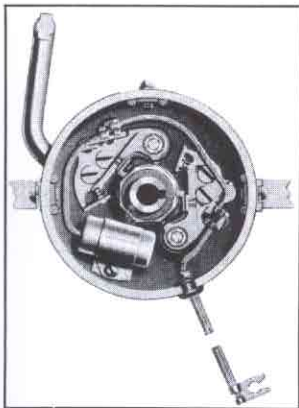

Fig. 59—Distributor
1. Loosen screw and nut attaching lead wire to stationary point. Remove lead wire and condenser lead (fig. 59). Remove the stationary point lock screw and remove point and arm. Repeat operation for other point.